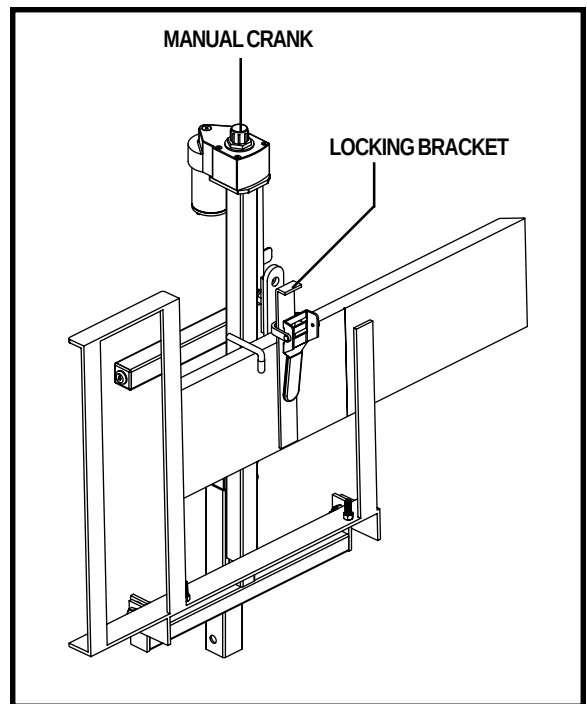

Figure 8. Platform Storage
3. Pivot the platform to a vertical position, then raise the lift until the platform is secured in the stowed position by the locking bracket. See figure 8.
The lift system is equipped with a manual crank that serves as backup in the event of a power failure. Using the supplied tool, rotate the manual crank (located on top of the motor housing) clockwise or counterclockwise to move the platform up or down. See figure 8.